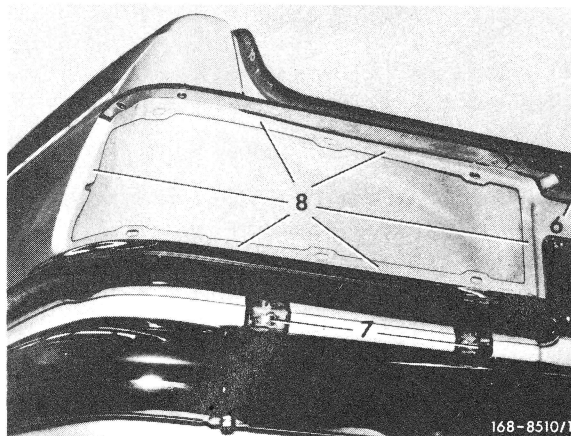

Fig. 4
8 Check water drain holes (6) on trimstrip of snap lock for trunk lid and clean, remove trimstrip, if required, and seal (Fig. 4). Refer to 68.3-516.
9 Seal rear light unit. For this purpose, check sealing frame and renew, if required. Check installation surface (8) and straighten, if required. When using sealing frame again, insert sealing cord Part No. 000 989 70 85 into channel of installation surface (Fig. 4).